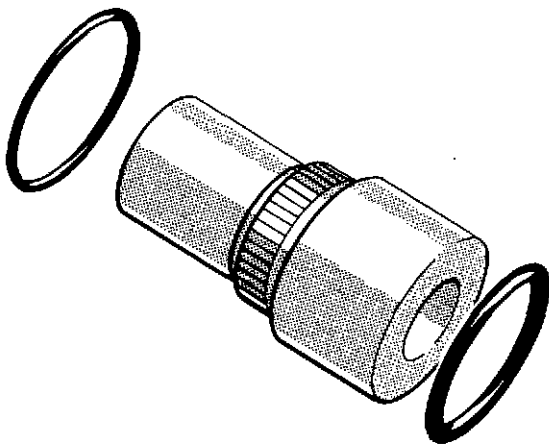

Fig. 13 Barrel assembly
- 19 Using a plastic mallet, sharply tap the bottom end of each barrel to free it from the pump body. Place the barrels in their respective containers. Discard the seating washers and 'O' ring seals (fig. 13).